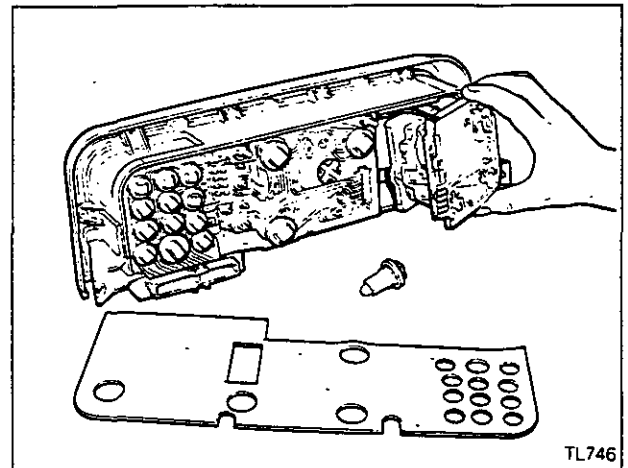

Figure 4
3. Withdraw the speedometer assembly from the back of the panel (Fig.4).